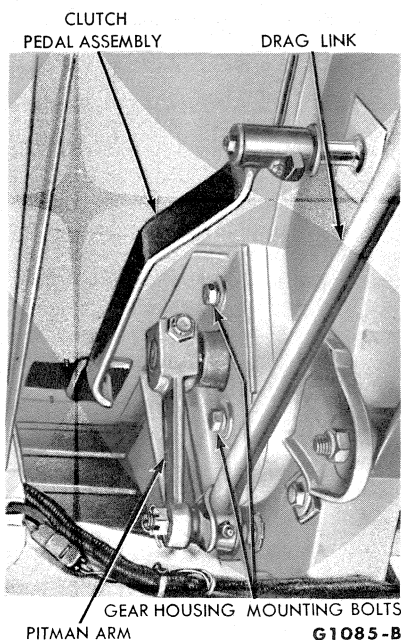

FIG. 8—Pitman Arm Installed
2. Disconnect the clutch pedal return spring. Remove the clutch pedal to pivot attaching bolt and washer, and pull the pedal from the pivot shaft so that the pedal will not obstruct the removal of the Pitman arm (Fig. 8).
1. Connect the front end of the new drag link to the sector shaft arm, and install the attaching nut and cotter pin (Fig. 8).